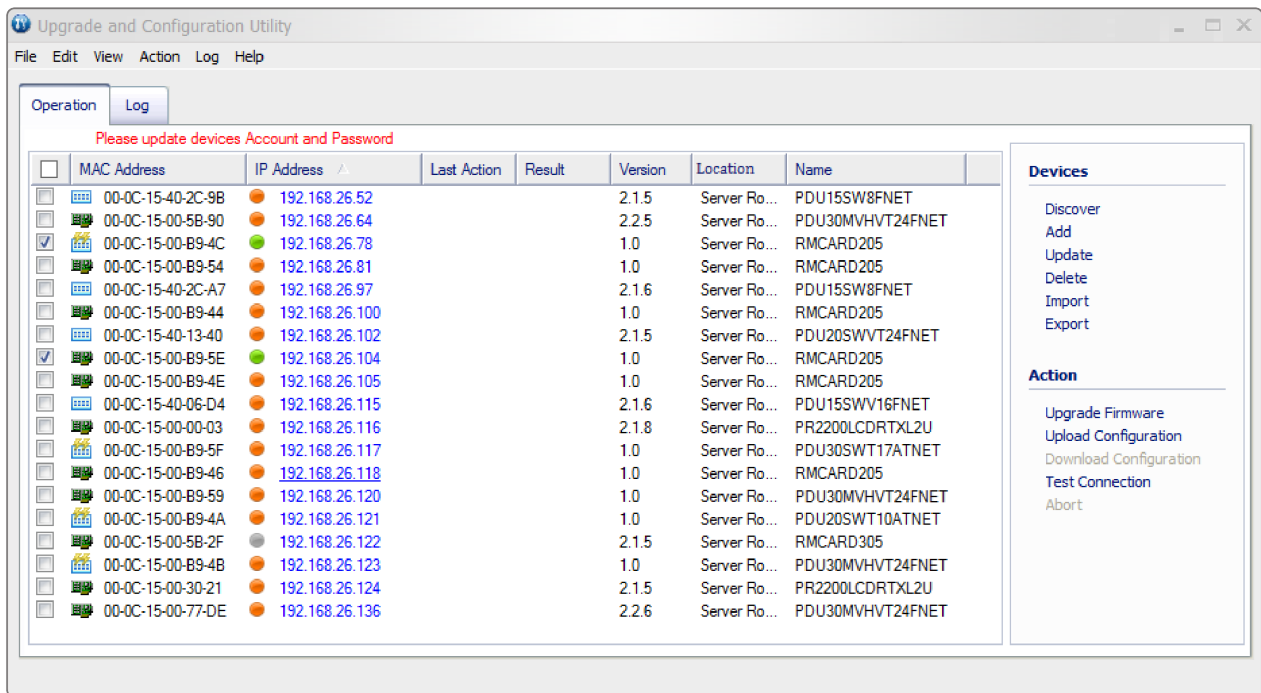

Figure 6. The main window of the “Upgrade and Configuration Utility” program.
3. The main window of the Upgrade and Configuration Utility tool program is shown in Figure 6. The configuration tool will display all CyberPower Remote Management devices present on the local network subnet. The “Discover” button is used to search the local network subnet again.